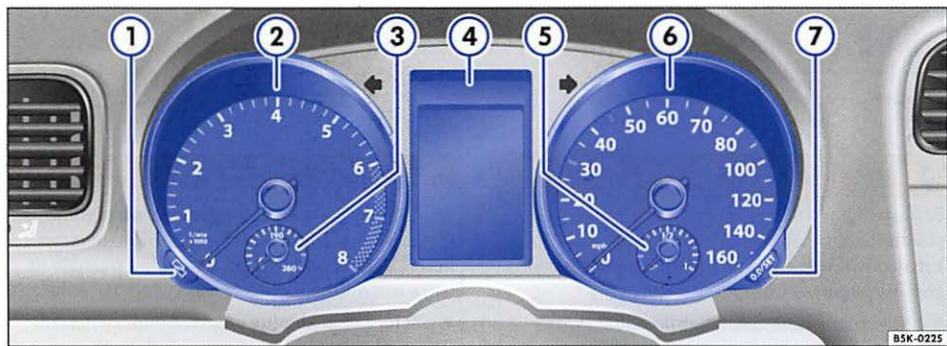

Fig. 6 Instrument cluster in the instrument panel.
Instrument explanations ⇒ fig. 6:
Depending on the vehicle model, different information may be shown in the instrument cluster display ⇒ page 16, fig. 6 ④.
The service appointment reminder is shown in the instrument cluster display $\Rightarrow$ page 16, fig. 6  4. For more information, please see the Warranty and Maintenance booklet.